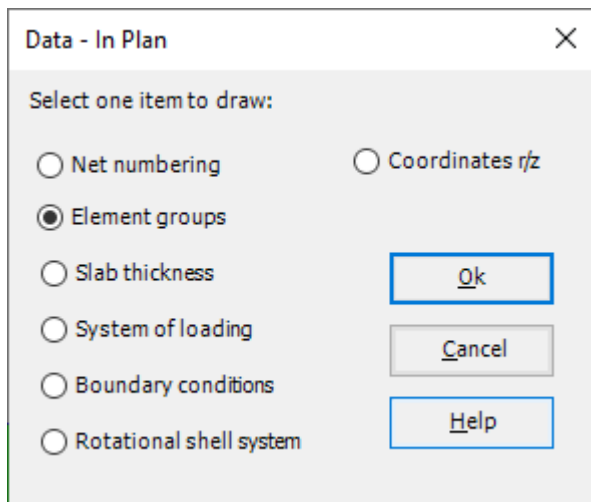

Figure 2.30 "Data – In Plan" option box
- Choose "Element groups" from "In Plan" command in "Data" menu. The following option box in Figure 2.30 appears